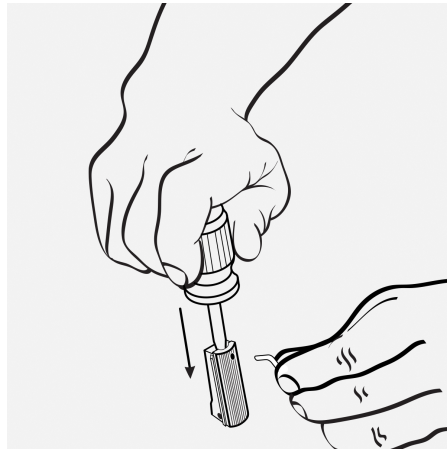

Figure 15-2
3. While continuing to depress the ILS™ spring cap, remove the takedown pin. (Fig. 15-2)